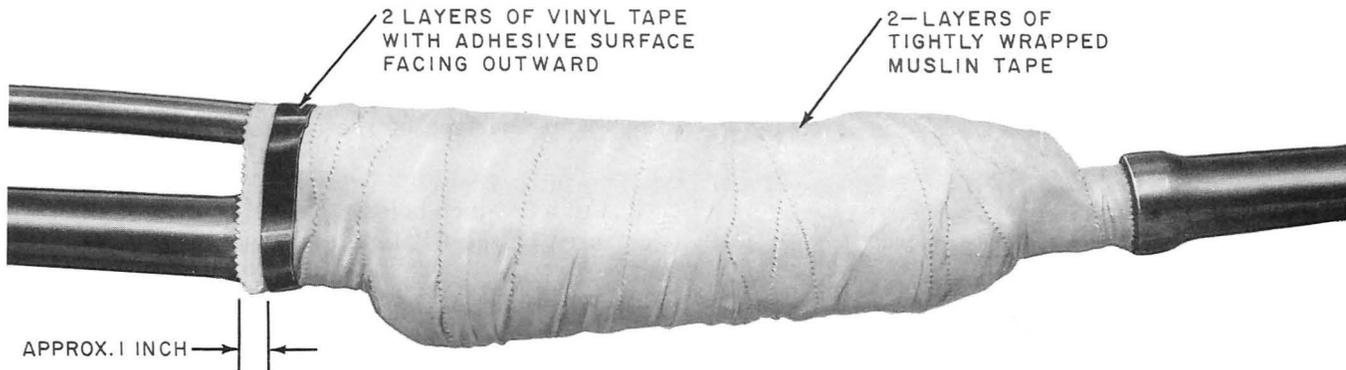

Fig. 5—Splice Prepared for Crotch Saddle
4.03 Place two firmly wrapped half-lapped layers of muslin over the entire splice (Fig. 5).
- (1) Place two reverse laps of vinyl tape over the muslin wrapping, 1 inch from end of splice bundle at Y-joint (Fig. 5). **Adhesive surface must be facing outward.**
- (2) Remove separator from prepared crotch saddle.
- (3) Carefully place crotch saddle between the two cables with white rubber adhesive surface facing outward.
- (4) Overlap the two slitted edges of the upper hole around the upper cable and press down firmly against the vinyl tape stretching lightly against the muslin wrapping.
- (5) Repeat the process on the lower cable making certain the outer edges of the crotch saddle are in firm contact with the vinyl tape and the crotch saddle is snug against the contour of the splice.